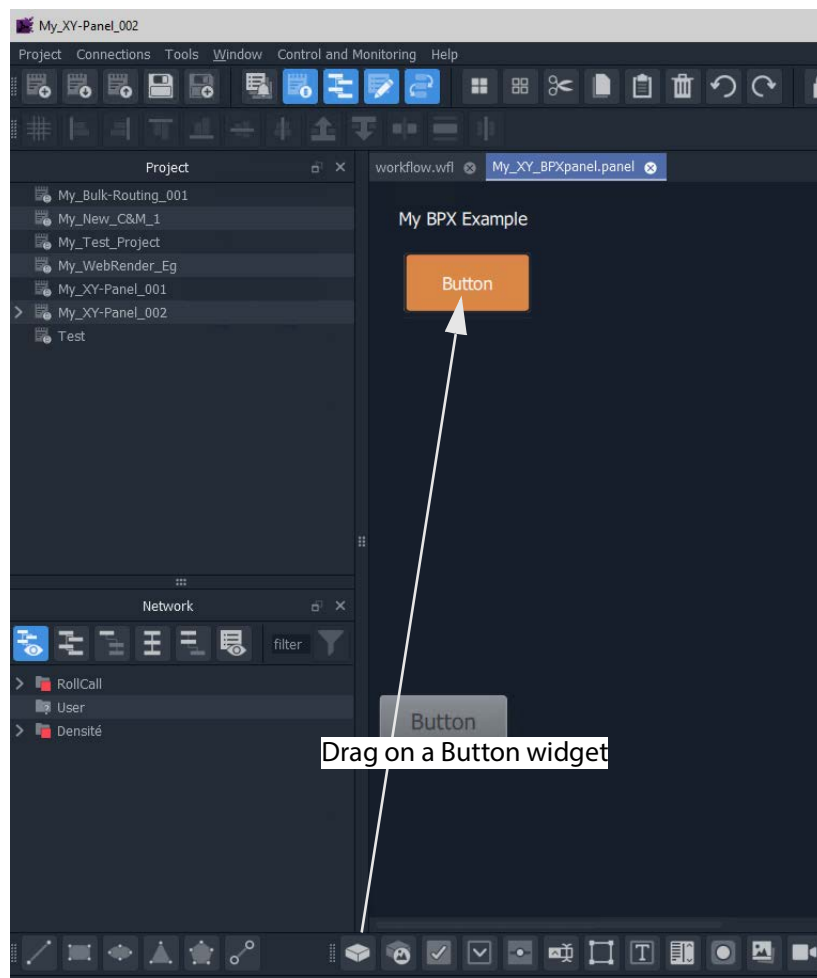

Fig. 13-49: Add a Button Widget
- 2 Add a graphical **Button** widget to the panel. (See Figure 13-49.)